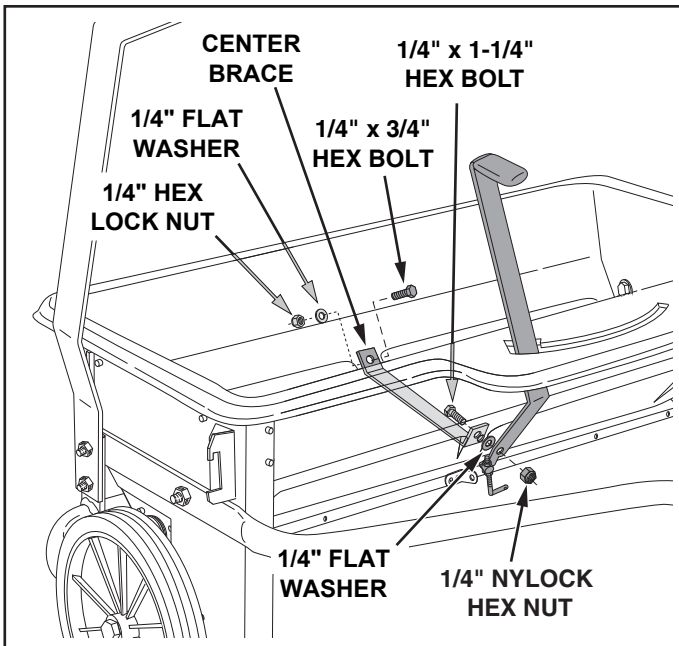

FIGURE 8
- Place the flow control lever into the slot in the hopper. See figure 8.
- Place the center brace into the hopper. Insert the 1/4" x 1-1/4" hex bolt through the center brace and the front of the hopper. Assemble a 1/4" flat washer, the flow control lever and a 1/4" nylock hex nut onto the bolt. **Do not tighten yet.** See figure 8.
- Insert the 1/4" x 3/4" hex bolt through the center brace and the rear of the hopper. Assemble a 1/4" flat washer and 1/4" nylock hex nut onto the bolt. **Tighten** both the front and rear bolts. See figure 8.